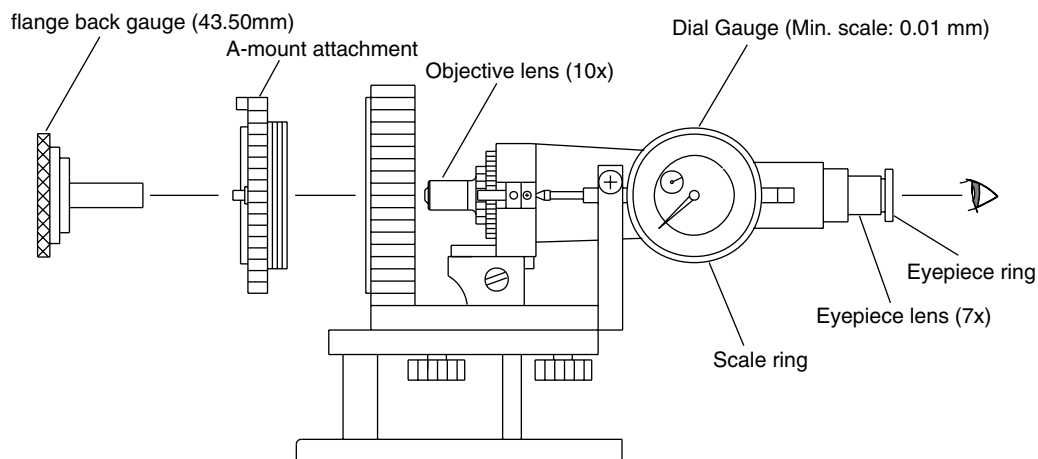

Fig.4-4-1
- 1) Set the equipments as shown in the Fig.4-4-1.